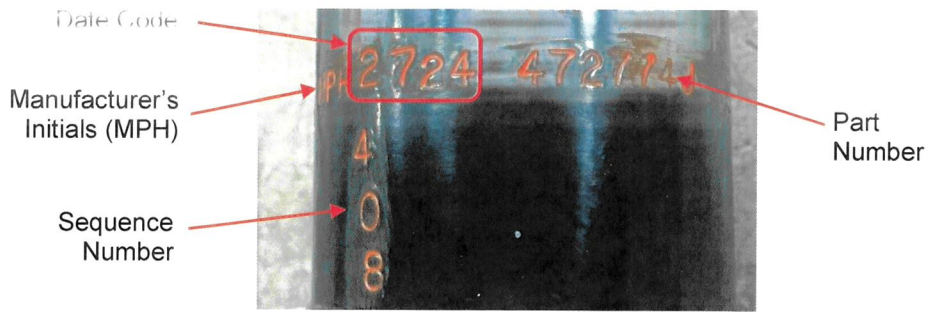

Figure 6. Example Hydraulic Cylinder Date Code
5. Using Figure 6, inspect the part number and date code on the hydraulic cylinder. The first two numbers in the date code are the week the cylinder was manufactured. The second two numbers are the year the cylinder was manufactured. The example below was manufactured week 27 in 2024. Sequence number 408 represents this was the 408th cylinder manufactured in week 27 in 2024.